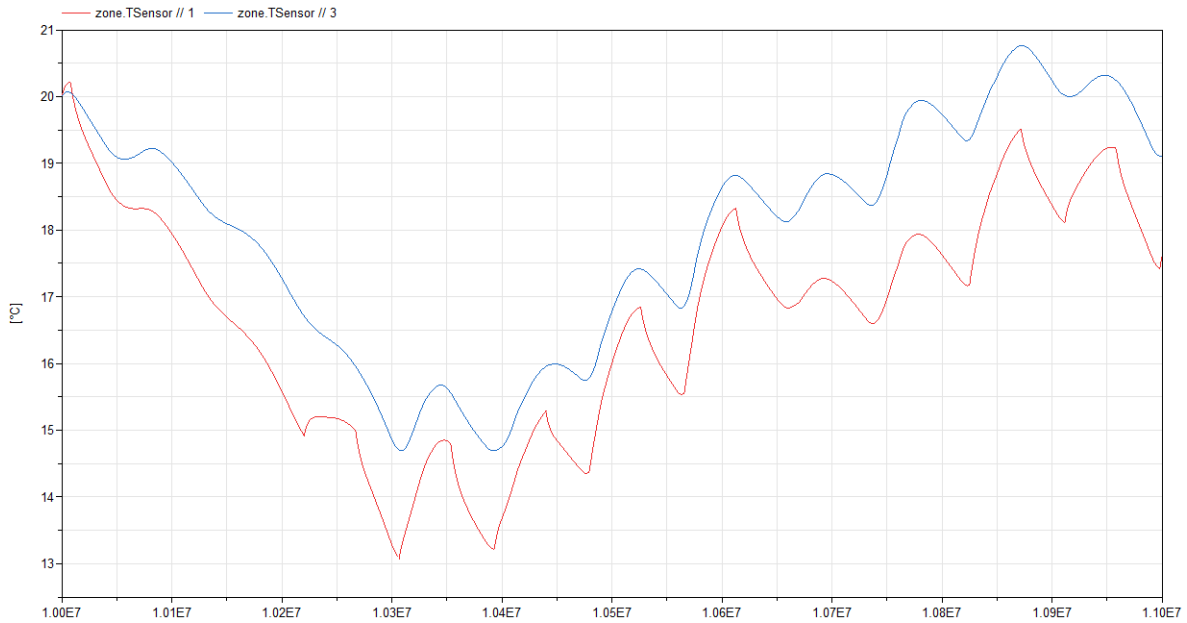

Figure 4: Zone temperature with old (blue) and new (red) occupant model.
**Reference result** The result is plotted in Figure 4. Note the much more peaked behaviour of the zone temperature.